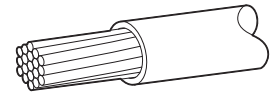

Figure 2
2. Strip cable insulation avoiding damage to the cable's strands (Figure 2).